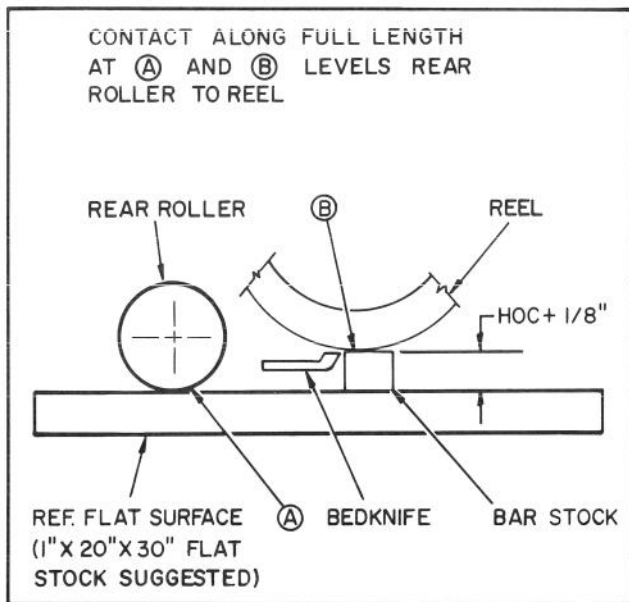

Figure 18
- C. Insert a piece of bar stock 25" - 28" (70 cm) long (Fig. 18), and approximately 1/8" (3 mm) thicker than the desired height-of-cut, under the reel and up against the bedknife cutting edge (Fig. 18). The reel (not bedknife) must contact the bar stock along its full length.
- F. Insert piece of bar stock (Fig. 18) 25"-28" (70 cm) long with thickness equal to desired height-of-cut, under entire length of the reel, next to bedknife.